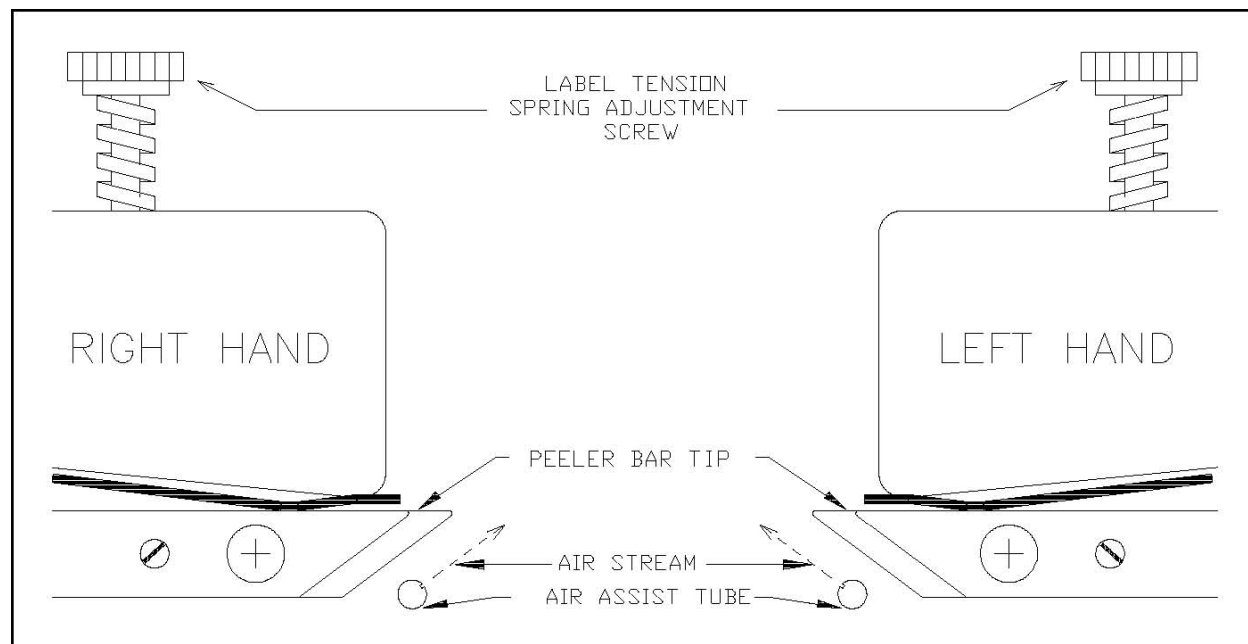

Figure 42 Air Assist Tube Adjustment
2. Make sure that the air hole in the air assist tube is pointing at the beginning of the vacuum grid parallel to the peeler bar tip at the center of the label. See Figure 42 If the air assist tube has several holes; adjust the tube so that the holes are evenly spaced across the label.